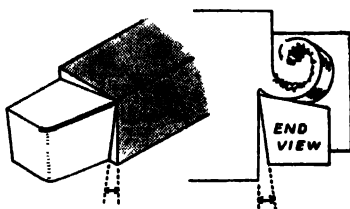

Fig. 11-13. Side clearance angle. (The Shell Oil Company)
**Side Clearance.** This term (or *side relief*) indicates that the plane that forms the flank or side of a tool has been ground back at an angle sloping down from the side cutting edge. Side clearance concentrates the thrust force exerted on the flank of a tool in a small area adjacent to the side cutting edge (Fig. 11-13).